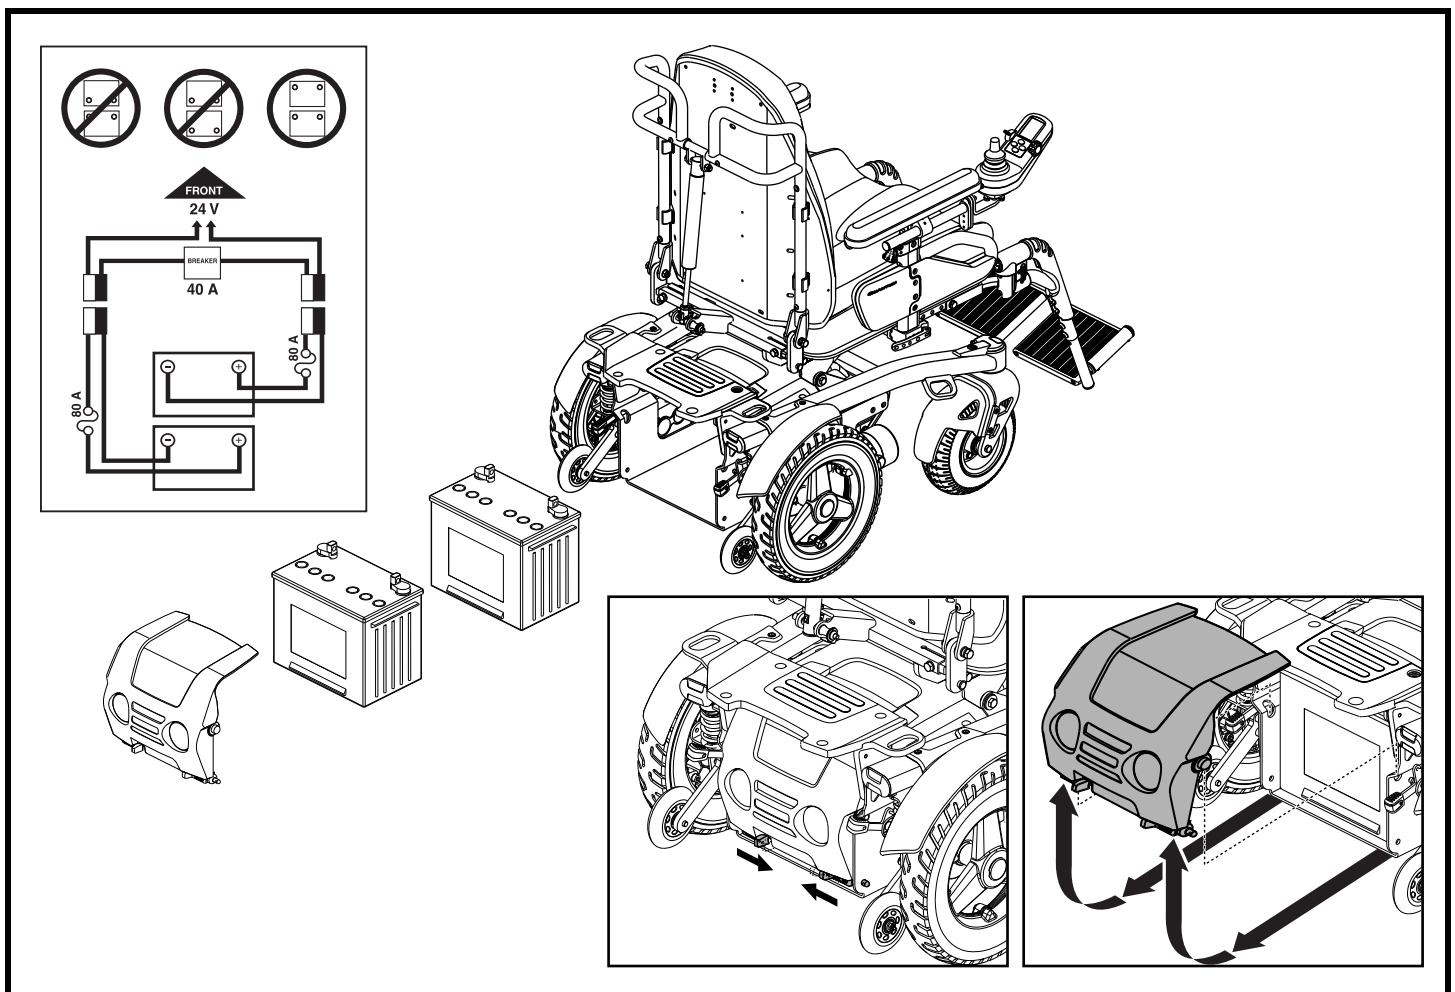

Figure 27. Battery Replacement
A battery wiring diagram is printed on a decal located on the battery door. See figure 27. Refer to the specifications table for correct battery specifications.
3. Slide the battery door latches toward the inside of the the power chair. See figure 27.
4. Lift with an upward rotation to remove the battery door. See figure 27.
5. Locate the battery quick disconnects on the frame and disconnect both of them. See figure 27.
10. Connect the battery quick disconnects according to the battery wiring diagram label located on the frame. See figure 27.